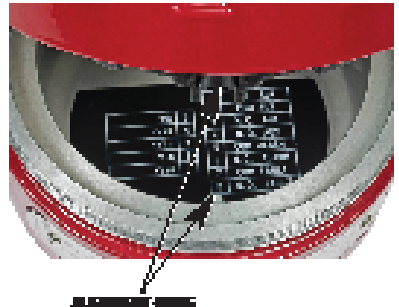

Figure 11—Alignment Guide Location
4. Re-install the assembly. Use the alignment guide (see Figure 11) to align the retaining ring with the junction box.